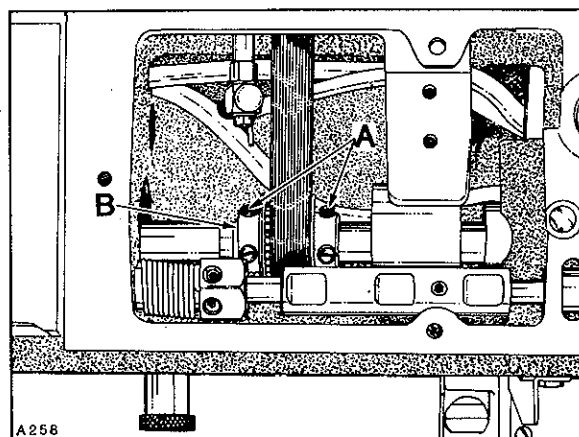

Fig.30
The Close-Coupled Roller Puller must be timed so the intermittent feeding action stops **BEFORE** the needles are entering the work. **NOTE:** This will depend on the thickness of material and stitch length being sewn. If adjustment is required, remove top cover which is secured with four screws. Loosen four set screws (A, Fig. 30) in sprocket (B). Advance or retard sprocket on shaft as required. When proper timing is obtained, position sprocket on its shaft (left or right) so drive belt is centered in the puller drive assembly. Torque four screws (A) to 35 in-lbs. (40 cm/kg). There should be approximately 1/8